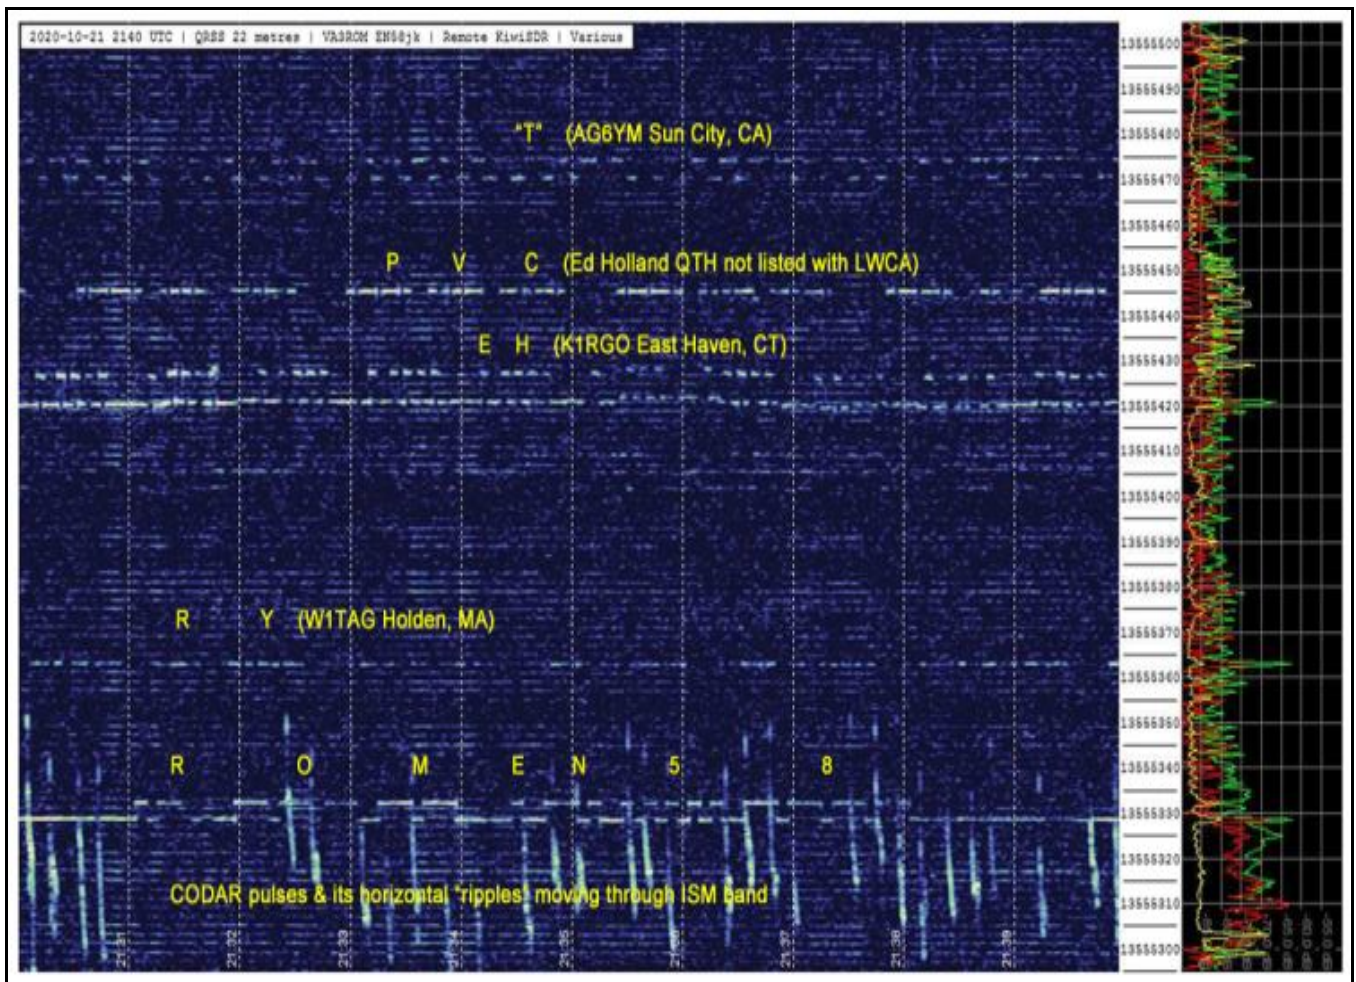

Figure 5: Signals Decoded Using Remote KiwiSDR
- h. The bane of coastal radio hobbyists is the high frequency (HF) Coastal Ocean Dynamics Application Radar (CODAR) system, which is used for near-surface ocean wave monitoring (wave height, speed/direction, tsunami alerts, etc.). It transmits frequency modulated (FM) USB rapid CW kilowatt pulses. One well-used CODAR frequency is 13.500000 MHz. Ouch! (Figure 5, next page).